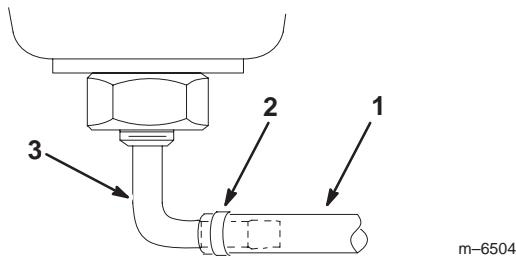

Figure 6
- Push the fuel line onto the fuel tank connection and secure it with the hose clamp that is on the fuel line (Fig. 6).
Note: Make sure the fuel line and clamp are on as shown in Figure 6.